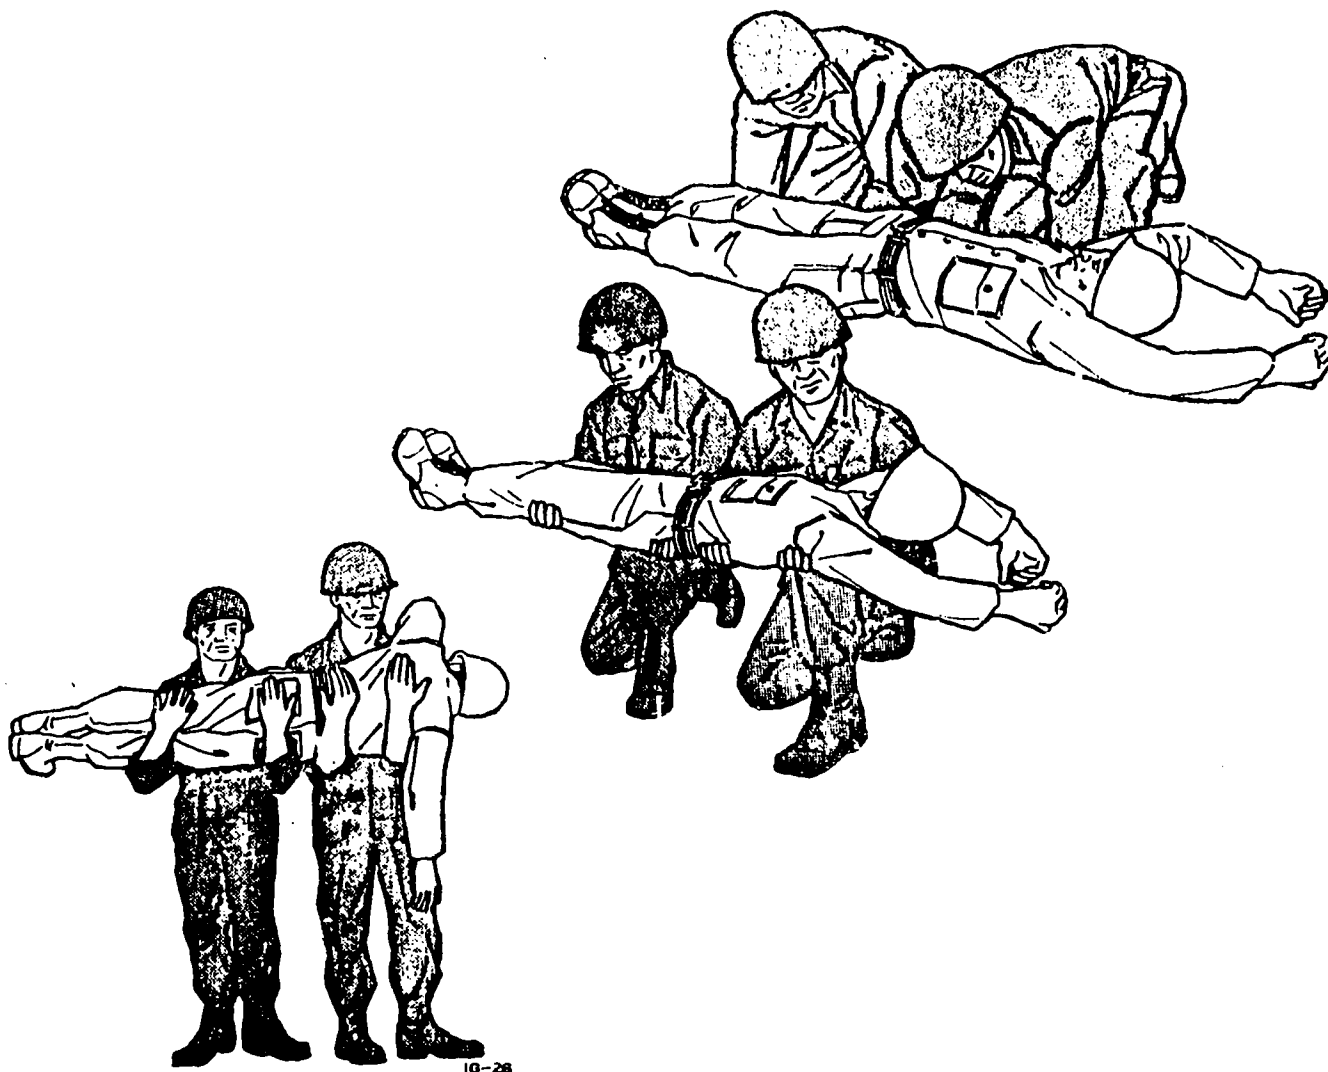

Figure 1-12. Two-man-arm carry
**Two-man arm carry.** Remember the technique we used to move a victim from the ground to a litter? The first three steps of that technique are the same for the two-man arm carry (fig. 1-12). Once you have the victim at a height equal to your knees, you and your assistant rise to your feet in a smooth, joint effort. As you rise, lift the victim and, by pulling your arms in, roll the individual toward your chest. You can use this technique with just about all types of injuries.